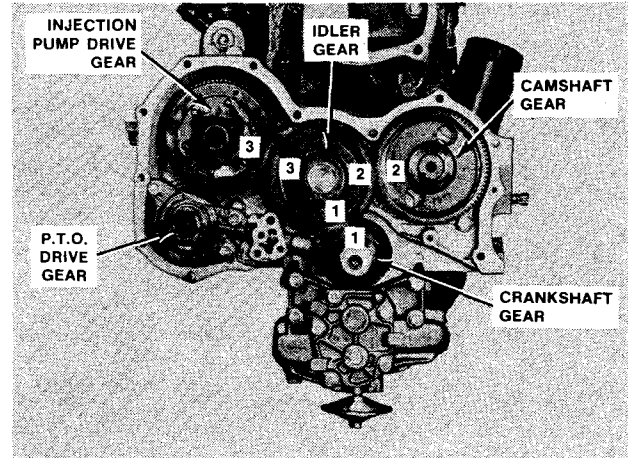

FIG. 43 Phasing Timing Gears (SSD-655)
With teeth in mesh, slide the idler gear fully onto its shaft and install the snap ring (Fig. 43).
- b. Install the P.T.O. drive gear in mesh with the injection pump drive gear and secure to the timing gear case (Fig. 43). Torque attaching bolts to specification.